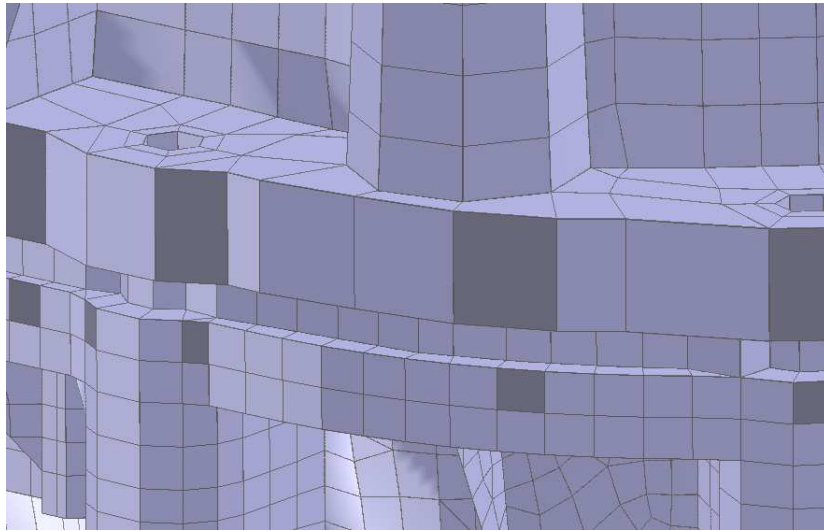

Figure 5.35: Select Elements.
- Select elements that coincide with the seam edges. To select an element in the GUI: Left-click on the element with the *shift-key* held down. (Refer to Figure 5.35)